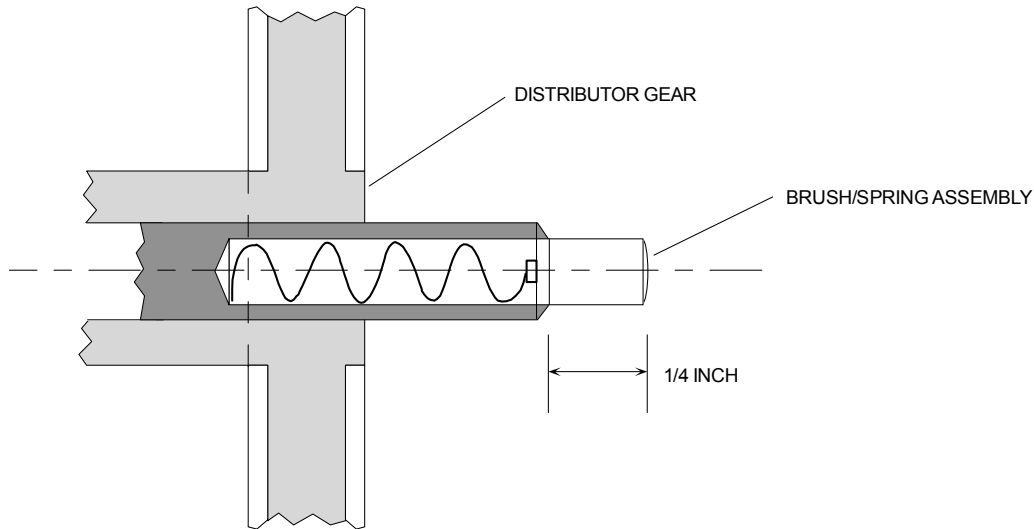

Figure 9.15
- B. Install carbon brush assembly (34) into the distributor gear (part of 31).
2. Gently press the carbon brush and spring assembly (34) into the shaft until the spring seats on the bottom of the shaft. The top of the carbon brush should protrude from the top of the shaft approximately $\frac{1}{4}$ inch. (See Figure 9.15).